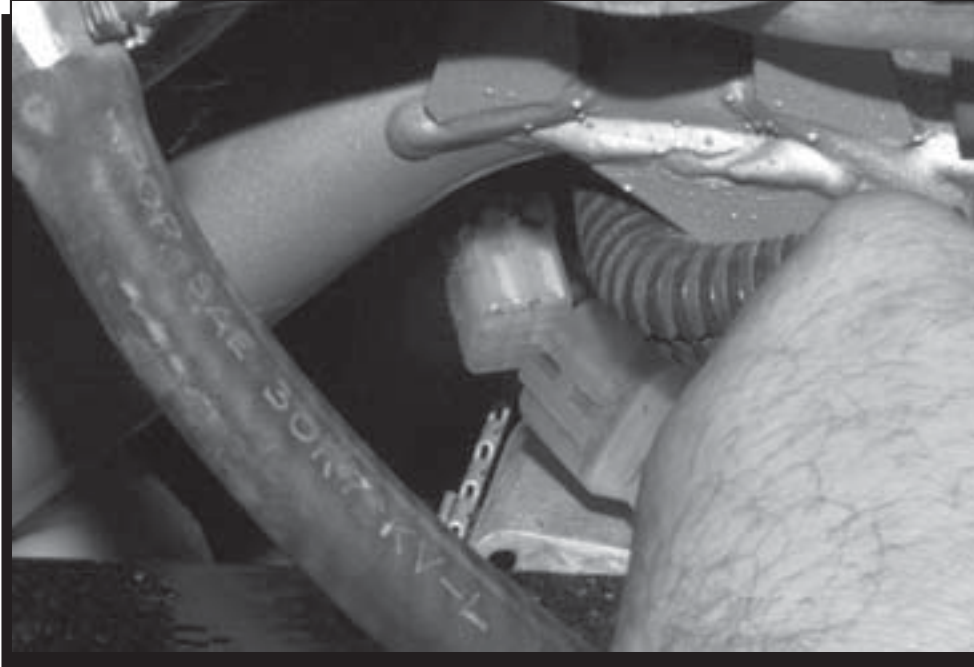

**Figure 5 Connecting the Factory Run Switch.**
6. Locate the factory Run Switch on the left side of the handle bars. Disconnect the Black/White factory wire and plug the MSD's White wire to the Black/White wire going to the switch (Figure 5).